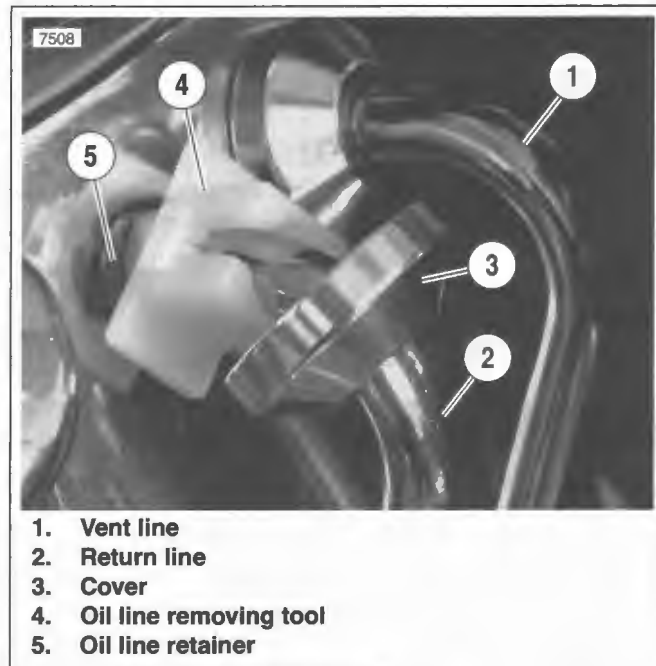

Figure 3-161. Line Cover
7. See Figure 3-161. Detach vent (1) and return (2) oil lines at front of tank using OIL LINE REMOVING TOOL (Part No. HD-44455).
- a. Slide cover (3) away from oil line.
- b. Insert tool (4) inside retainer (5).
- c. Pull oil line straight out from tank leaving oil line retainer (5) inside tank.
7. See Figure 3-161. Connect vent and return lines to tank. No tools are necessary for this step. Insert lines straight into fittings without digging or gouging O-rings. Remove any labels used to identify lines during removal process.